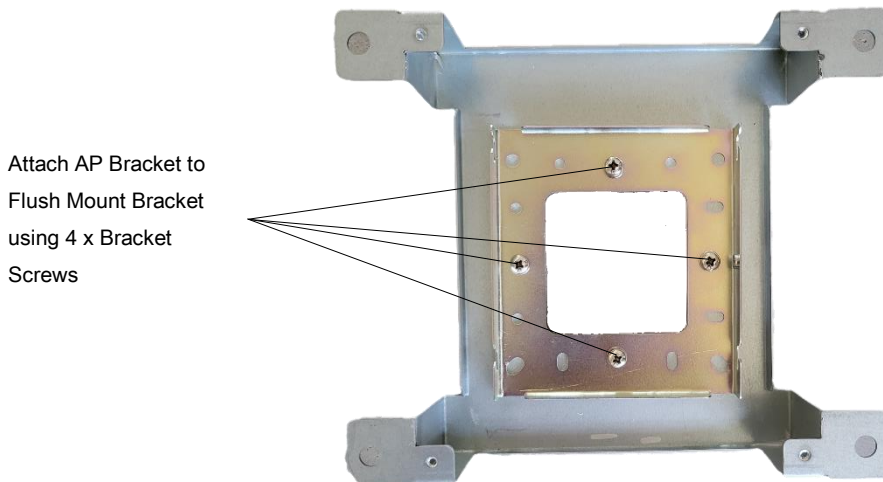

Figure 27: APV3-BDA - Mounting Standard Mounting Bracket to Flush Mount Bracket
- Install the APV3-BDA standard mounting bracket into the flush mount bracket using the (4) screws removed in the previous step. Ensure the standard mounting bracket is installed with the HEX Screw hole on the right side. See Figure 27 below.